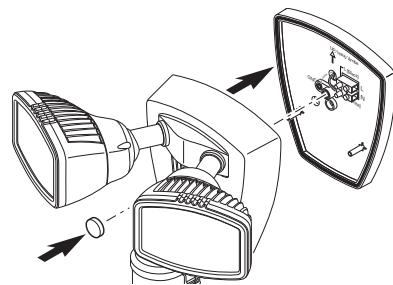

Figure 5
2. Verify the rubber gasket is properly seated around the edge of the 1-2-Easy Connect™ (see Figure 5).
- Tighten the mounting bolt securely being careful not to overtighten (see Figure 5).
- Push the plastic plug firmly into the mounting bolt hole on the light fixture (see Figure 5).